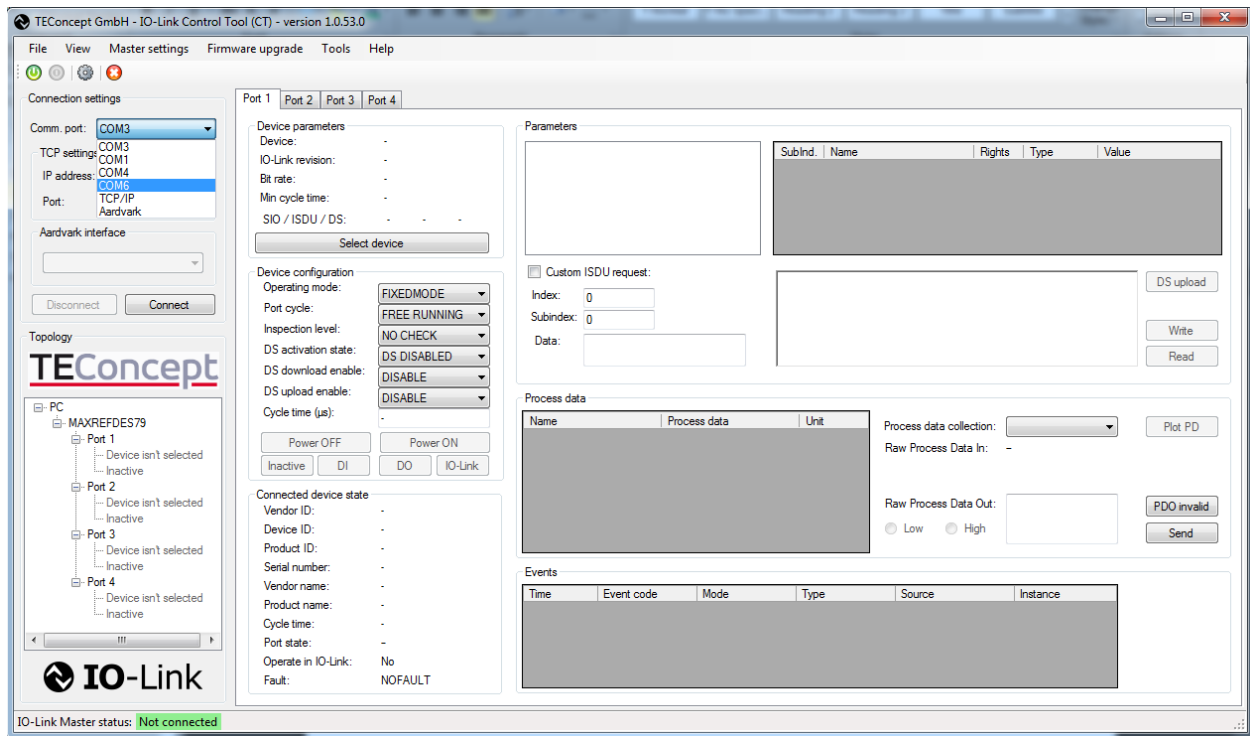

Figure 7. TEConcept IO-Link CT Software. Tested with version 1.0.53.0.
9. Run the **TEConcept CT** software as shown in Figure 7. Press the **connection settings** icon, which is a gray gear. (COM port may be different on your PC.) Press the **Connect** button and it will show a flashing green COM connection label at the bottom of the GUI once connected.